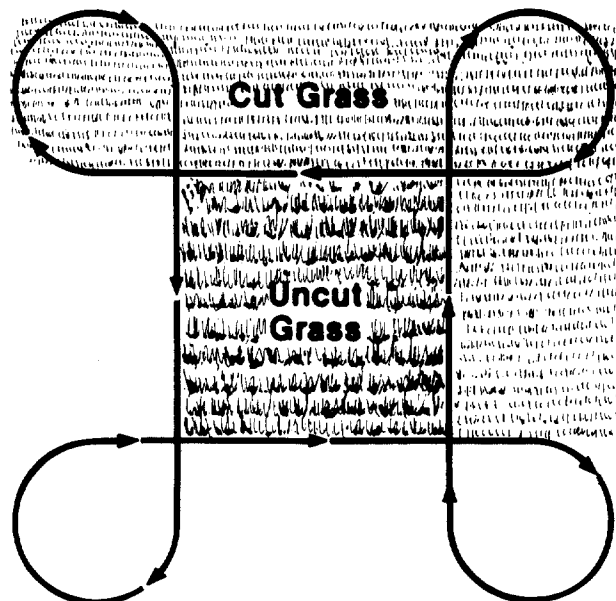

Figure 26
4. Follow the mowing procedure shown in Figure 26.